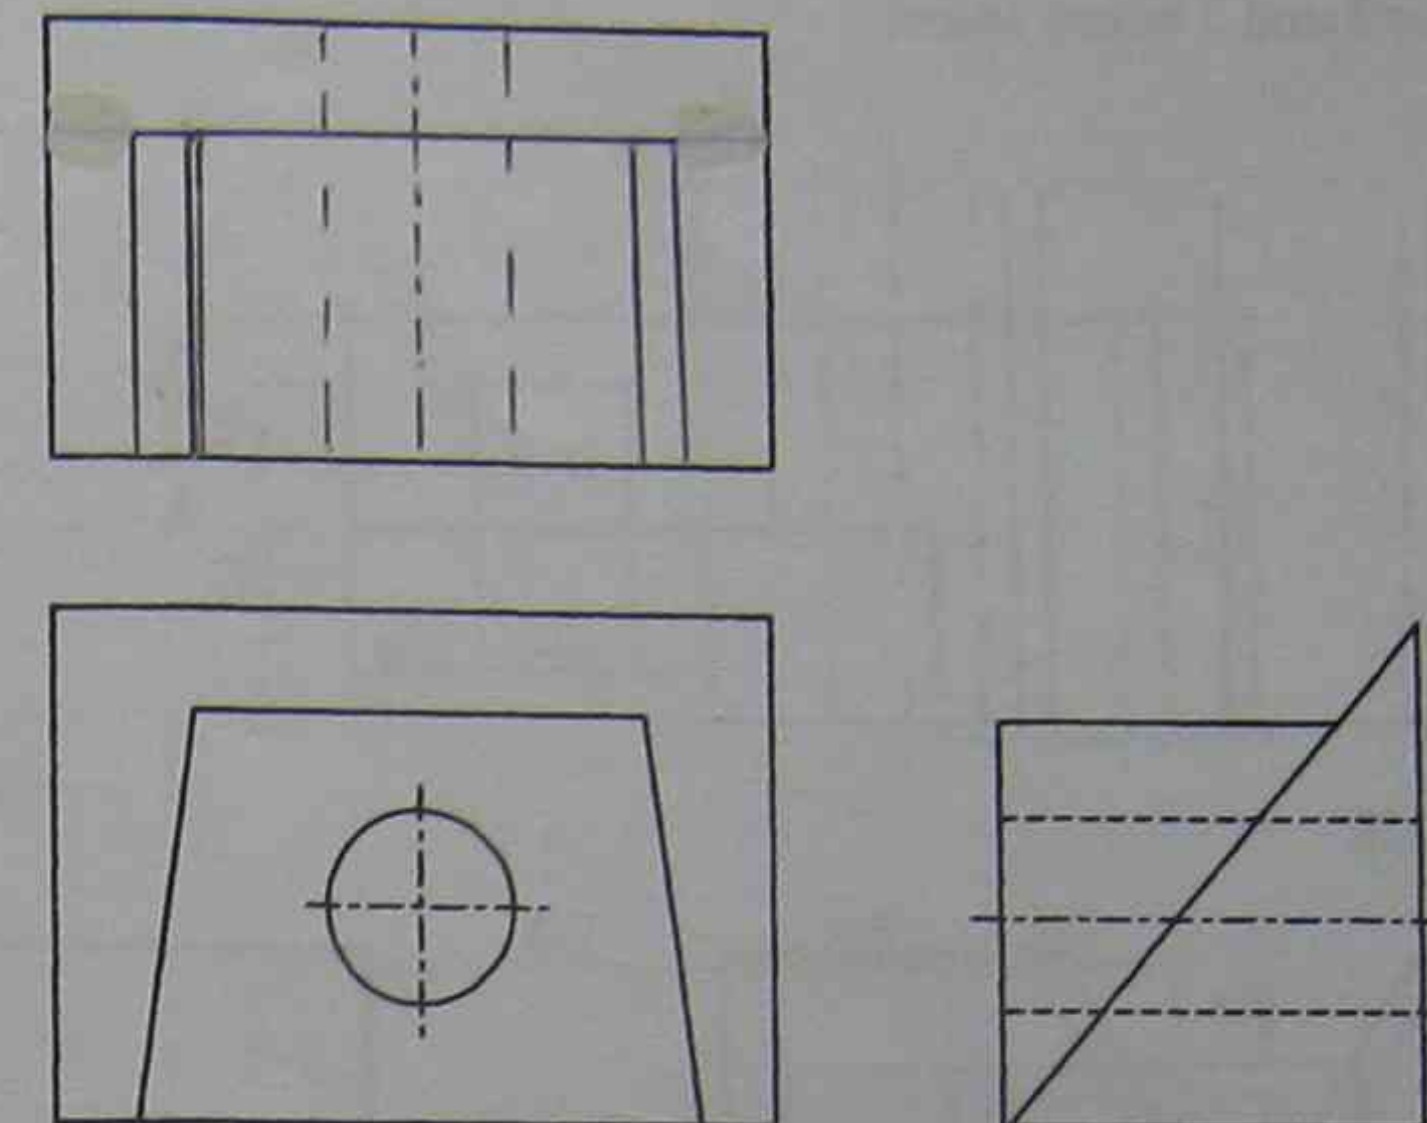

Figure 4
2. Using projection techniques, add the missing lines to the top view of the third angle projection drawing of figure 4 below.